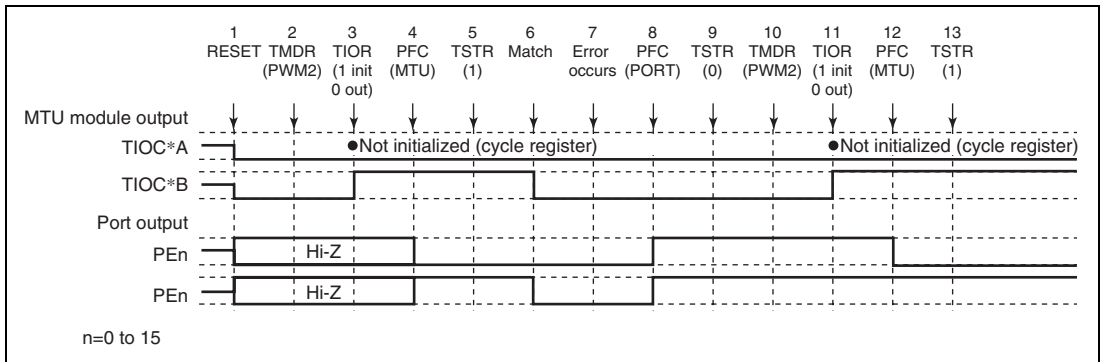

**Figure 11.99 Error Occurrence in PWM Mode 2, Recovery in PWM Mode 2**
**Operation when Error Occurs during PWM Mode 2 Operation, and Operation is Restarted in PWM Mode 2:** Figure 11.99 shows an explanatory diagram of the case where an error occurs in PWM mode 2 and operation is restarted in PWM mode 2 after re-setting.